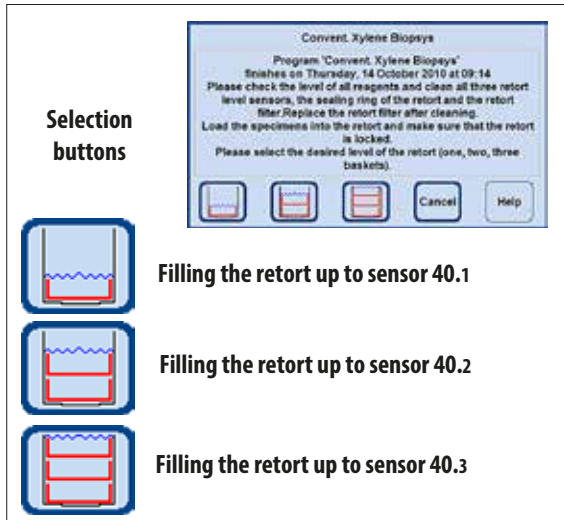

Fig. 31
### Level sensors (at left in Fig. 31)
Depending on how many baskets the retort is loaded with, the fill volume can be selected in the dialog box by pressing the corresponding button (Fig. 31).
- For this purpose, there are three level sensors (40.1 - 40.3) (Fig. 31) located behind the cover (40) in the rear cover of the retort.